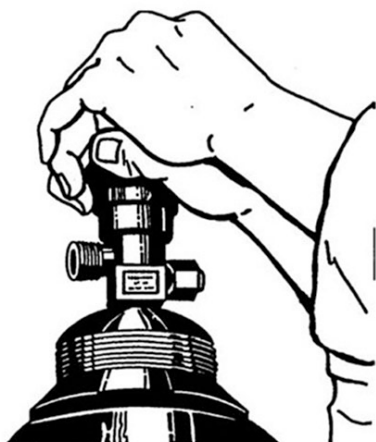

Figure 5-3. Cracking the valve.
2.	Open (crack) each cylinder outlet valve slightly for an instant to blow out any dirt lodged in the outlet nipple (fig. 5-3).